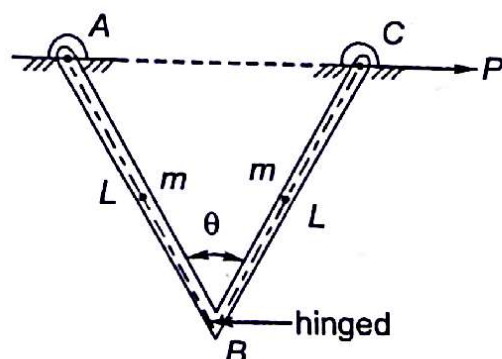

Fig. 9.27
- 9.5 Figure 9.27 shows two hinged uniform bars AB and BC of having mass m and length L each, which is supported and loaded as shown. For a given value of P determine angle θ for equilibrium.